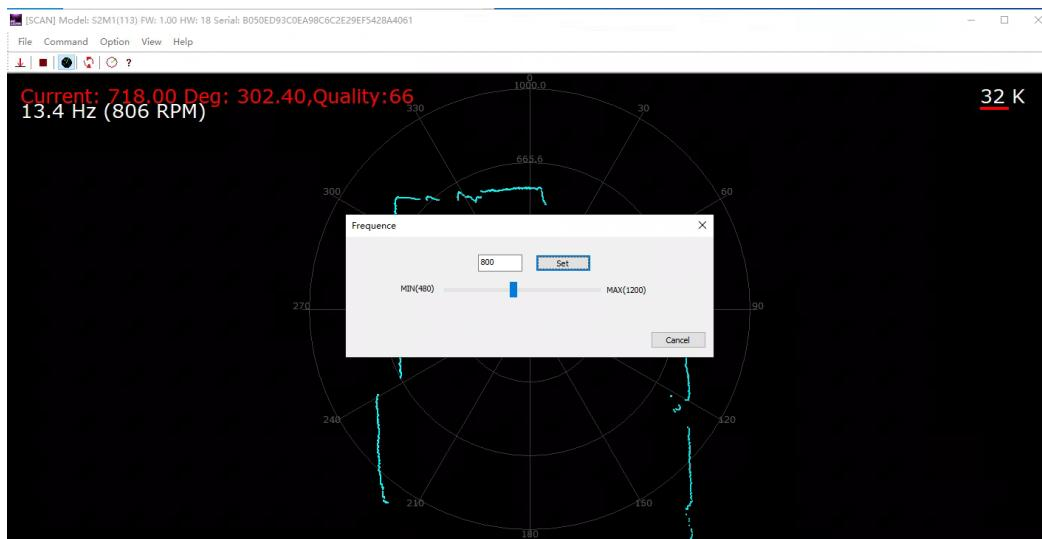

Figure 3-7 Lidar Speed Regulation
- 7) Click Command >IP Config to configure the IP address. As Figure 3-7 shows resetting the device after the configuration is complete. For SDK, see setLidarIpConf and reset.